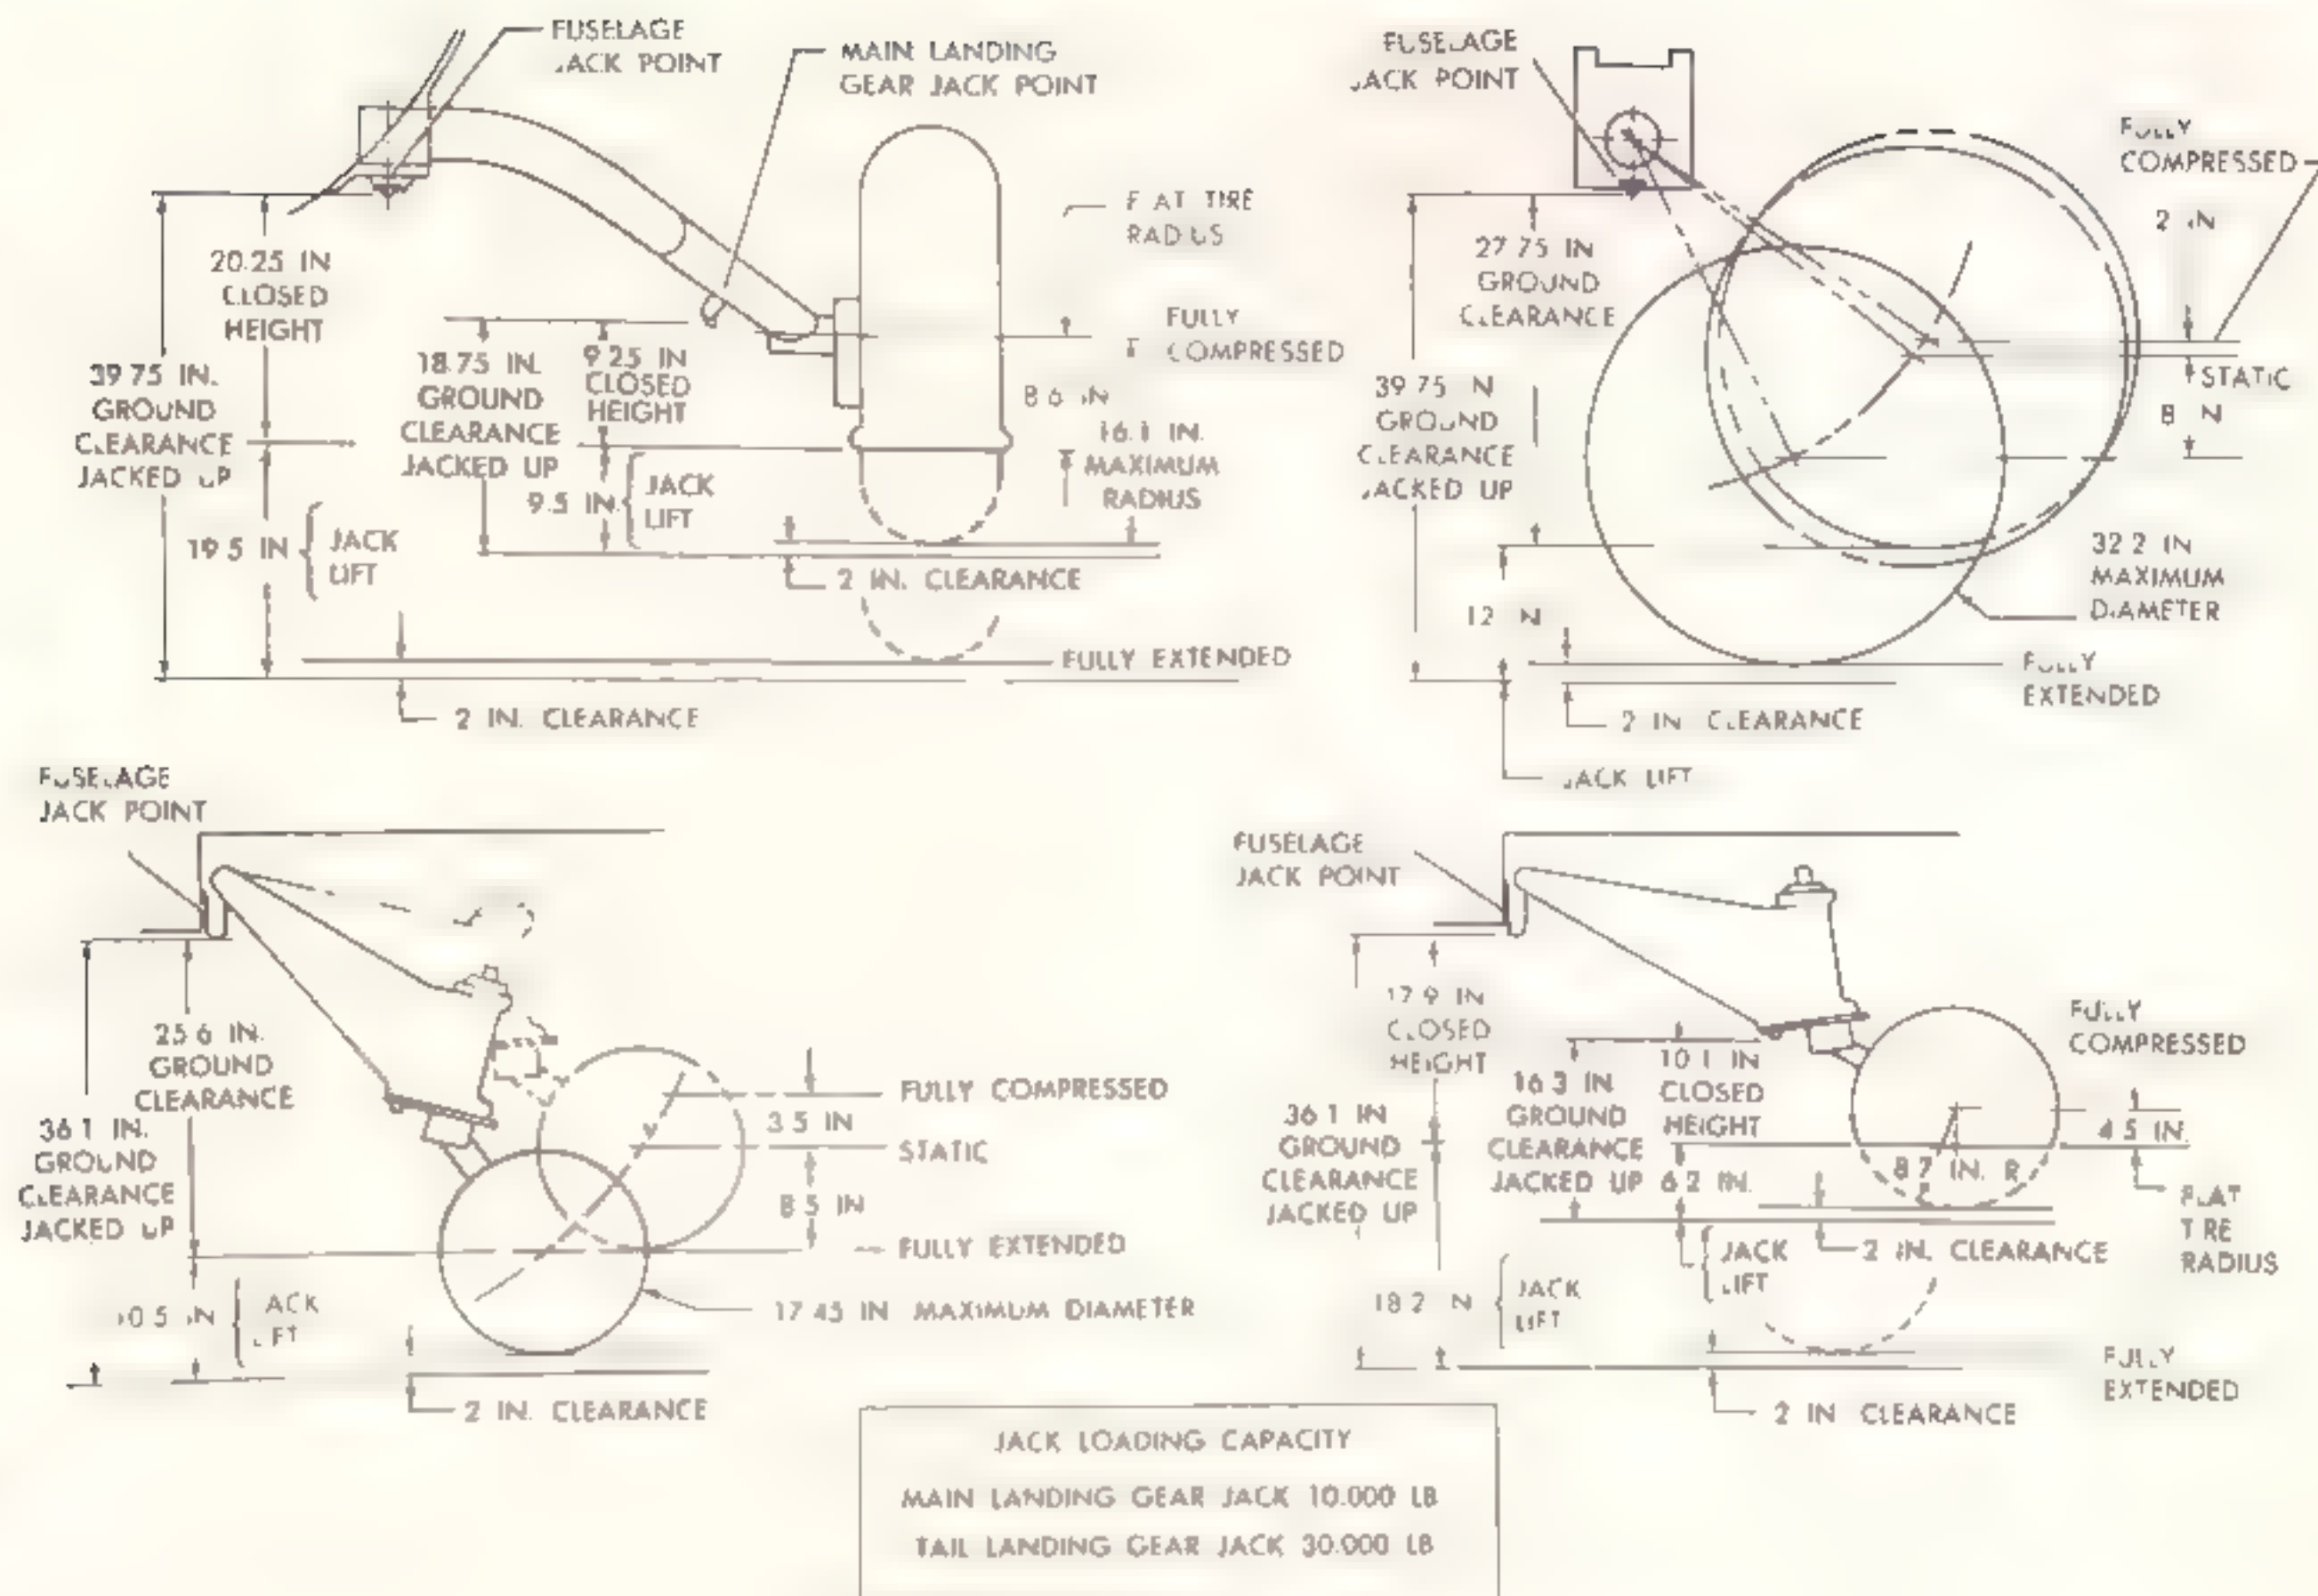

Figure 1-12. Jacking helicopter
1-48. *Jacking.* a. To jack entire helicopter, use jack pads on two main landing gear fittings and jack pad on fitting on bottom of tail cone. (See figure 1-12.)
a. *Leveling helicopter.* (1) To level helicopter, use jacks, on jack pads on two main landing gear fittings and at jack pad on fitting on bottom of tail cone. (See figure 1-12.)
b. *Leveling main rotor head assembly.* (1) Jack helicopter at jack pads on two main landing gear fittings and at jack pad on fitting on tail cone with jacks. (See figure 1-12.)